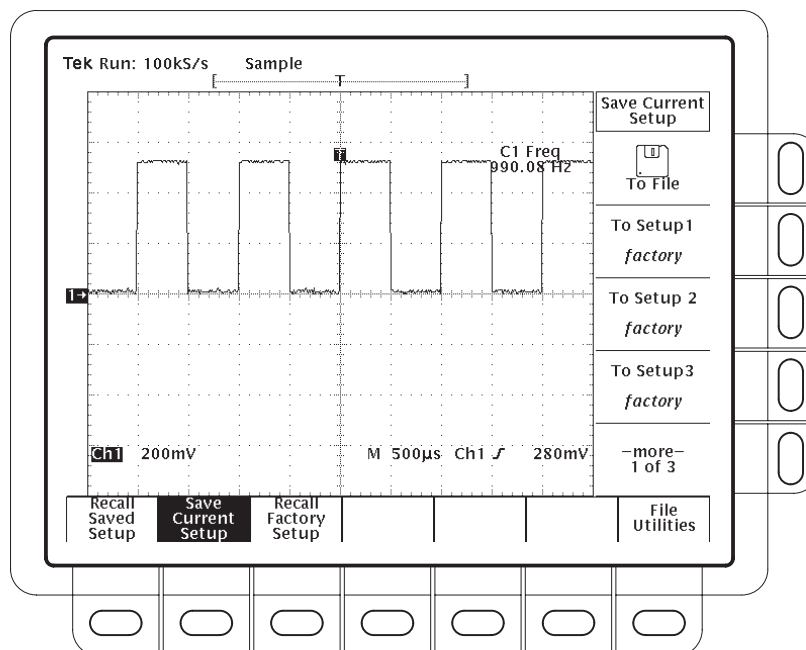

Figure 2-18: Save/Recall Setup Menu
6. Press **SETUP** → **Save Current Setup** (main) to display the Setup main menu (see Figure 2-18).